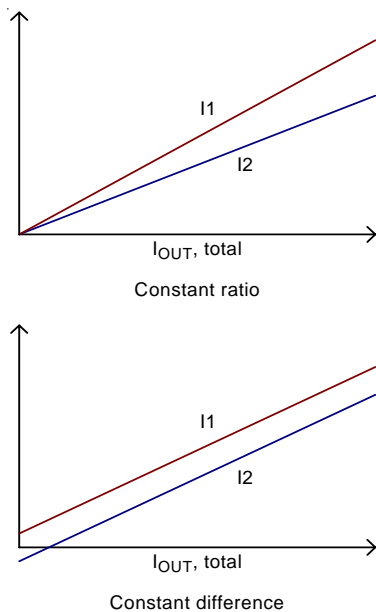

Figure 10. Category of Phase Current Imbalance
If phase current is not balanced due to asymmetric PCB layout of power stage, external resistors can be adjusted to correct current imbalance. Figure10 shows two types of current imbalance, constant ratio type and constant difference type. If the initial current distribution is constant ratio type, according to Equation (3), reducing R_{CSN}[1] can reduce I_L[1] and improve current balance. If the initial current distribution is constant difference type, according to Equation (2), increasing R_{CSP}[1] can reduce I_L[1] and improve current balance.